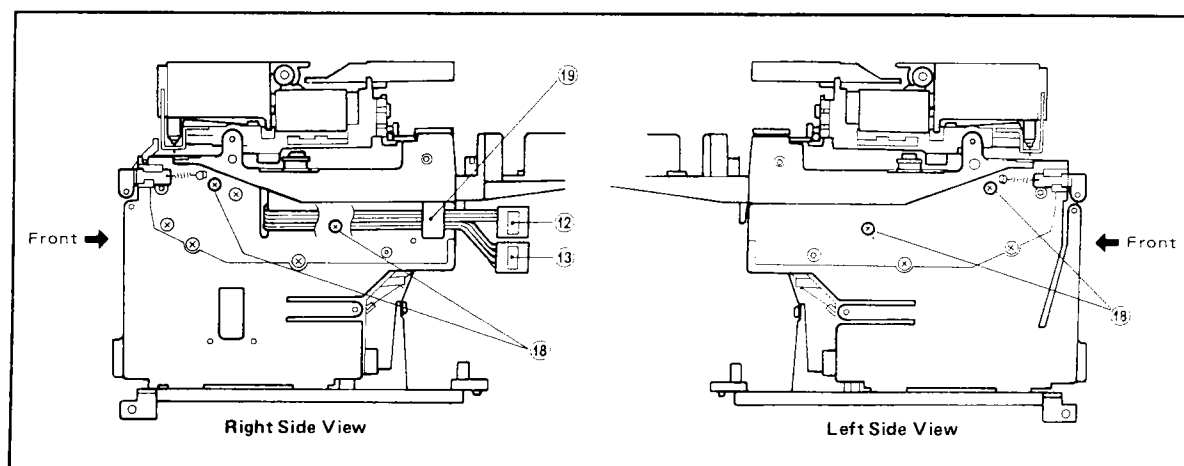

Figure 10-8. Chart Drive Unit Disassembly (1).
- (4) Remove the "CHART" connector cable (number 12) and "SENS" connector cable (number 13) from the molded guide (number 19) - (see Figure 10-8). Remove the four screws (number 18).